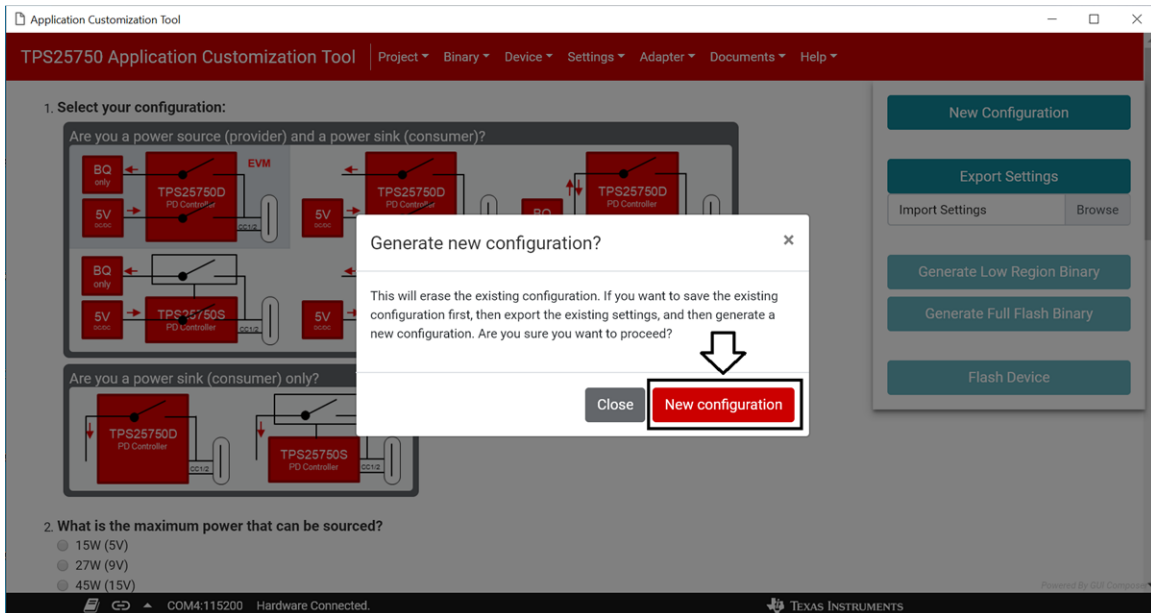

Figure 3-2. New configuration can be generated by clicking the button pointed to by the arrow
- When the modal appears, click the red *New configuration* button, as shown in Figure 3-2. This will reset any existing configuration on the form.